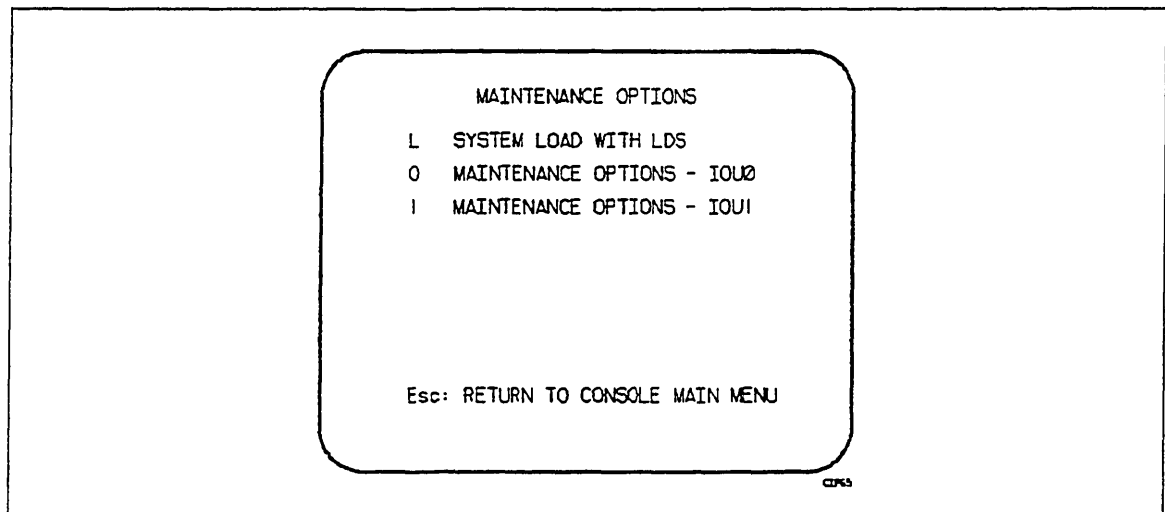

Figure 3-4. Maintenance Options Menu - Dual IOU
- a. Type M to bring up the MAINTENANCE OPTIONS menu shown in figure 3-4.